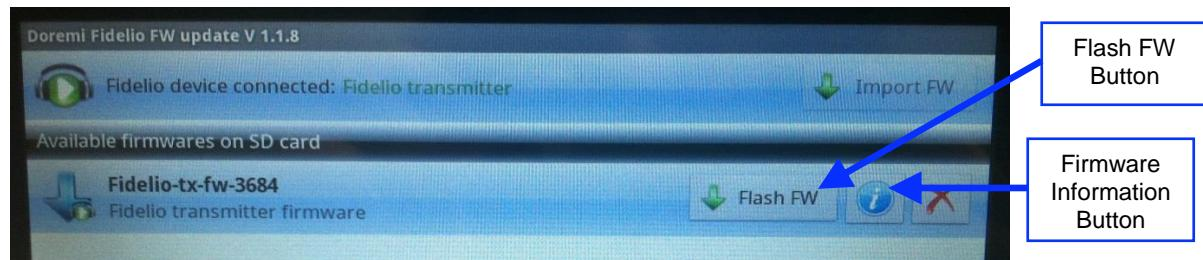

Figure 94: Available Firmwares
- Go to the Firmware Information button (Figure 94) to make sure that the firmware version that you will be flashing is the desired one. The information will be displayed (Figure 95).
- Tap the Flash FW button (Figure 94). Confirm the flashing process by tapping on the Flash button (Figure 96).